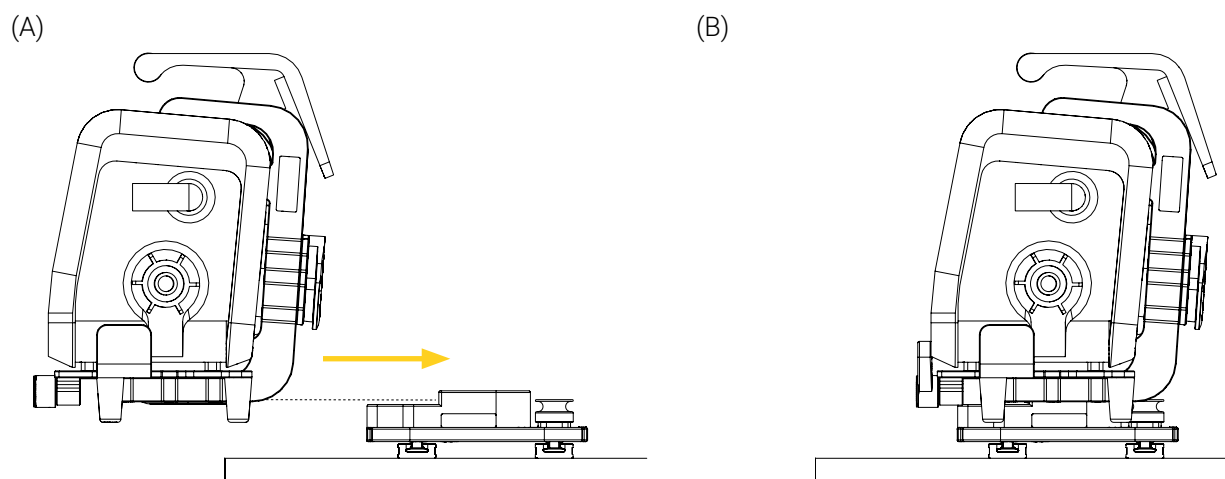

Figure 17: Installing the BP60-FL in a horizontal mounting system
1. Align and insert the standard bottom disc and/or micro disc located under the BP60-FL in the mounting system horizontally until it locks (Figure 17).